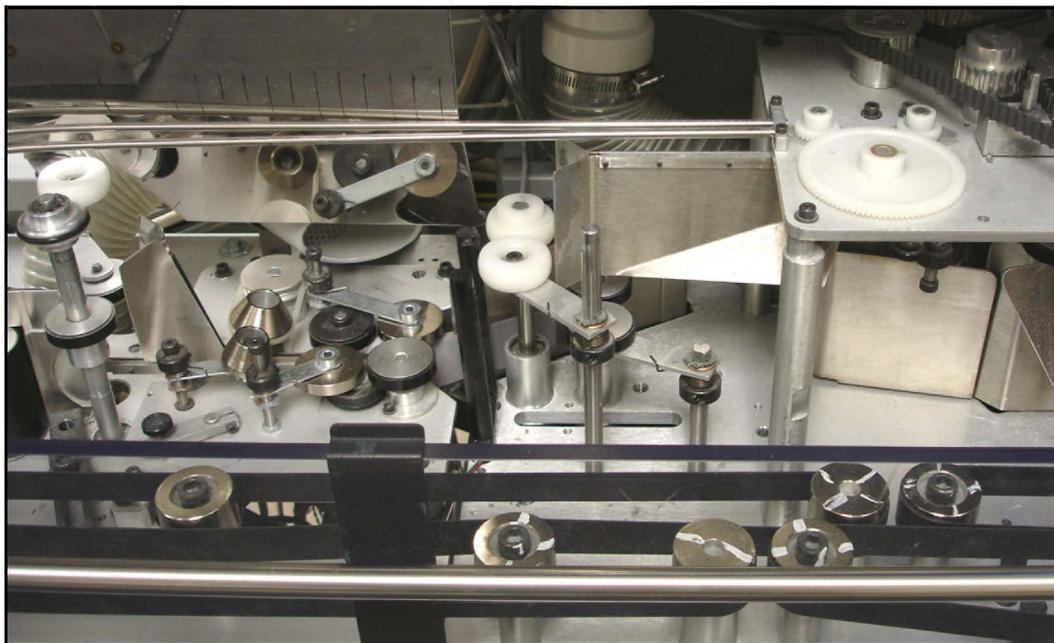

Figure 6-3: Cutter area
- Inspect each cutter (Figure 6-3). Remove any paper chips that are caught in and around the cutter blades.